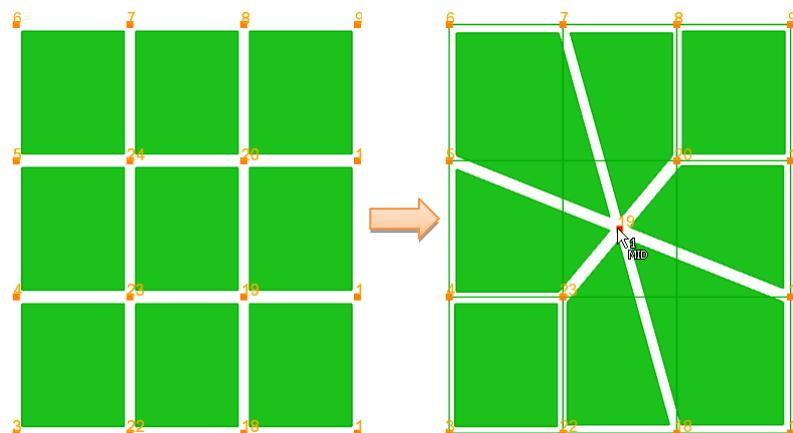

Figure 7-21 CollapseEdge collapses an element by its diagonal.
- 1) Collapsing a quad element by selecting its diagonal as in Figure 7-21.